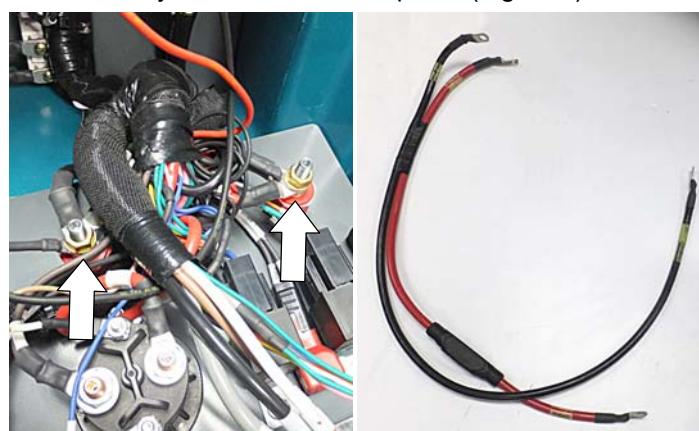

Fig. 4
6. Disconnect and remove the existing battery cable assembly from the electrical panel (Figure 4).